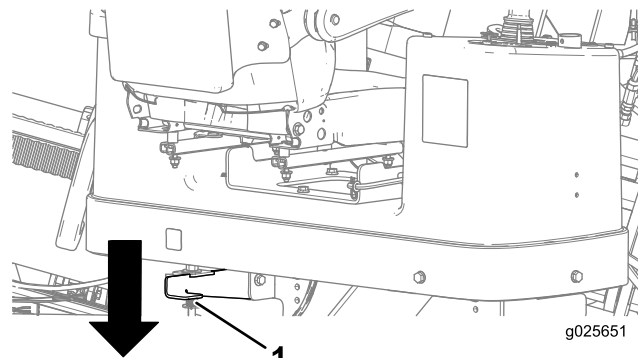

Figure 77
5. Push down on the rear platform latch securing the operator platform, and swing it out to the desired position, ensuring that it locks in place (Figure 77).